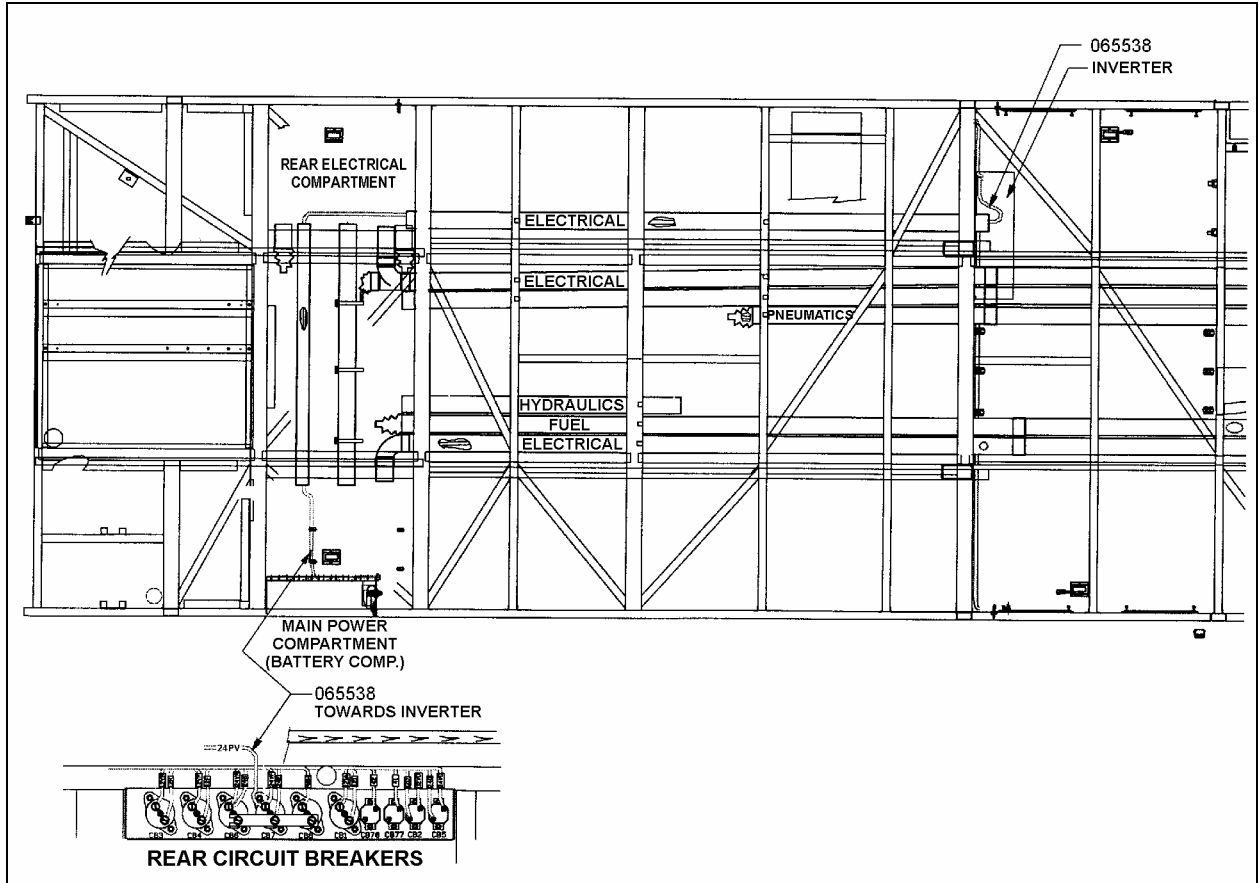

FIGURE 5
Note: Refer to figures 5, 6 and 7 for all steps in this procedure.
1. Route cable 24PV (065538) between CB7 circuit breaker located inside main power compartment (battery compartment) and inverter. Feed cable through cable ducts and rear electrical compartment as shown in figure 5.